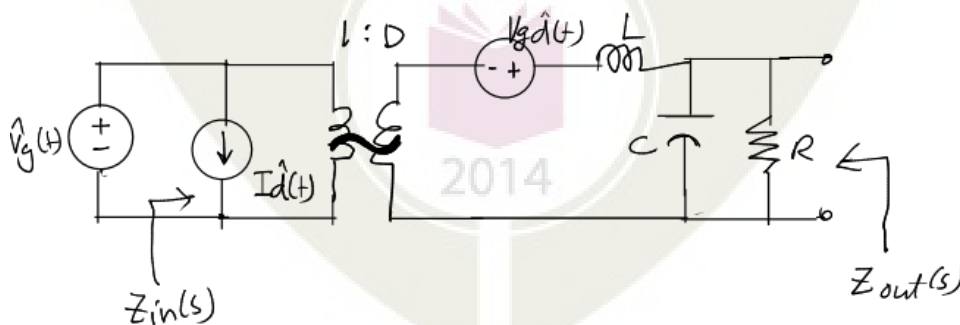

Figure 2.
- 14 Identify the switch network in the ideal buck converter such that the relative connections between the switch and the diode are not disturbed. Mark port voltages and currents, identify the port voltage and current waveforms, average them and develop an averaged linear model with transformer representation for this switch network (not the converter). (14)
- 15 (a) Figure 2 shows the small-signal model of a buck converter. Evaluate the output-to-control transfer function, $G_{vd}(s) = \frac{\hat{v}(s)}{\hat{d}(s)}$ from this equivalent circuit, by applying circuit manipulation techniques. Express the transfer functions in the standard form, where the quality factor Q , resonant frequency ω_0 , dc gain G_0 etc., are visible. (9)